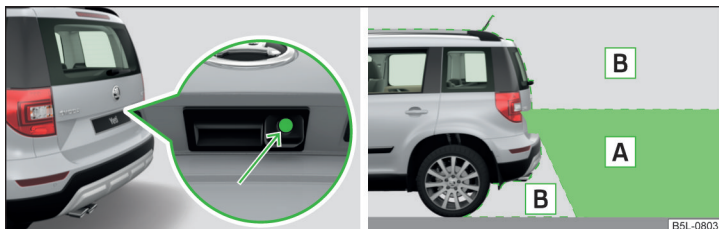

Fig. 147 Position of the camera / monitored area
The camera for capturing the area behind the vehicle is in the grip of the boot lid » Fig. 147.
**Supervised area** » Fig. 147